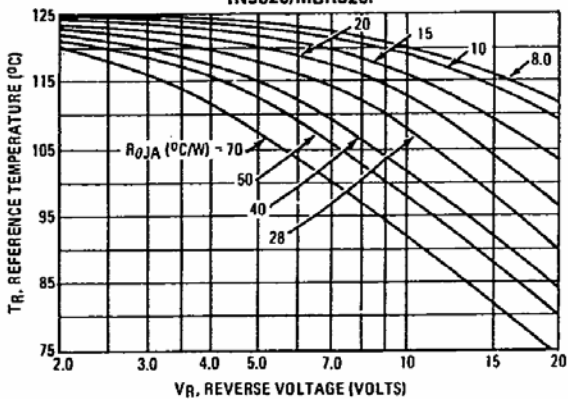

FIGURE 2 - MAXIMUM REFERENCE TEMPERATURE
Step 2. Find T_R from Figure 2. Read $T_R = 108^\circ\text{C}$